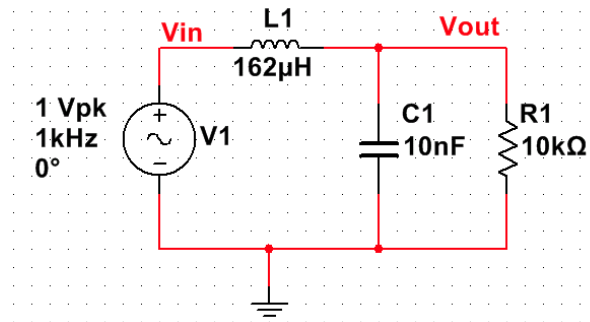

FIGURE 2: LCR schematic
10. Compute the Q factor and the bandwidth of the circuit in figure 2.
11. Compute the resonant frequency of the LCR circuit in figure 2.
In Multisim, create a new blank design and draw the schematic of the LCR circuit shown in figure 2. To add a component, right click and select *Place Component* (or use the shortcut [ctr1]+W). The components (INDUCTOR, CAPACITOR, RESISTOR, AC\_VOLTAGE) you require can be found under the *Sources* and *Basic* groups. Use the [ctr1]+R shortcut to rotate the component before placement. Then join the components together by moving the mouse over the end of a component and click to create a wire to another part of the circuit. Finally, add a net name label to the wire joining the inductor to the voltage source by double-clicking on it and setting it to  $V_{IN}$  and checking the box to display the name. Repeat for the wire joining the inductor to the capacitor and label it  $V_{OUT}$ . Adding net names like this makes it easy to identify which nodes you wish to plot in the simulation. Save your design. You are now ready to perform your first simulation.
The circuit in figure 2 forms part of the detector stage of the RFID reader that you will build. It will be driven by a square wave from a microcontroller to excite it as a resonant circuit. Our goal is to understand how this square wave will excite the circuit. To do this you should replace the AC voltage source with a PULSE\_VOLTAGE. This is easily done by double-clicking on the voltage source and selecting *Replace*. Configure the new source to have - Initial value: 0V, Pulsed value: 3.0V and leave the other parameters at their default values.